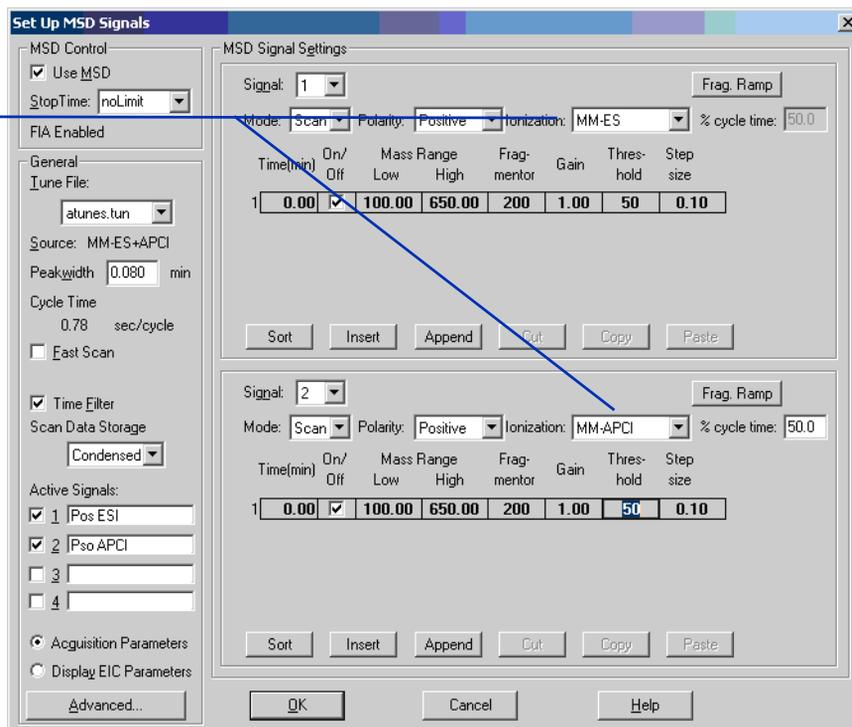

Figure 23 MM-ES and MM-APCI switching using Set Up MSD Signals dialog box
- 7 Modify the settings so that Signal 1 has **Ionization** value of **MM-ES** and Signal 2 has **Ionization** value of **MM-APCI** as shown in Figure 23.